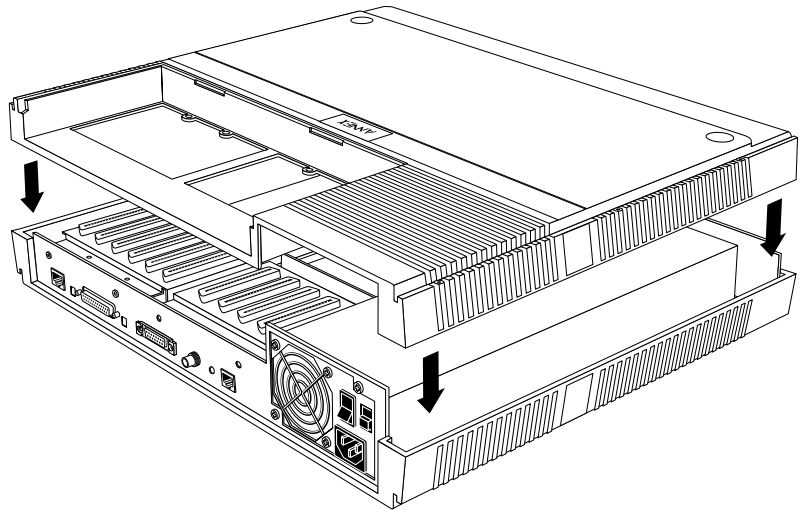

Figure C-9. Replacing the Remote Annex 4000's Cover
- 1 Lower the Remote Annex 4000's cover onto the unit (see Figure C-9).